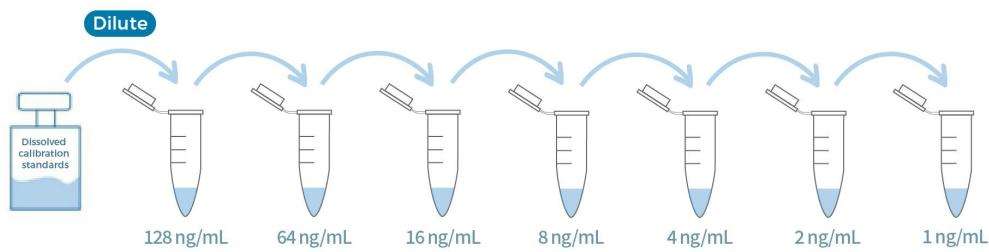

Figure 3. Graphic scheme of CHO HCP Calibration Standard Solutions
- Prepare CHO HCP Calibration Standard Solutions as shown in Fig 3 and Table 3.